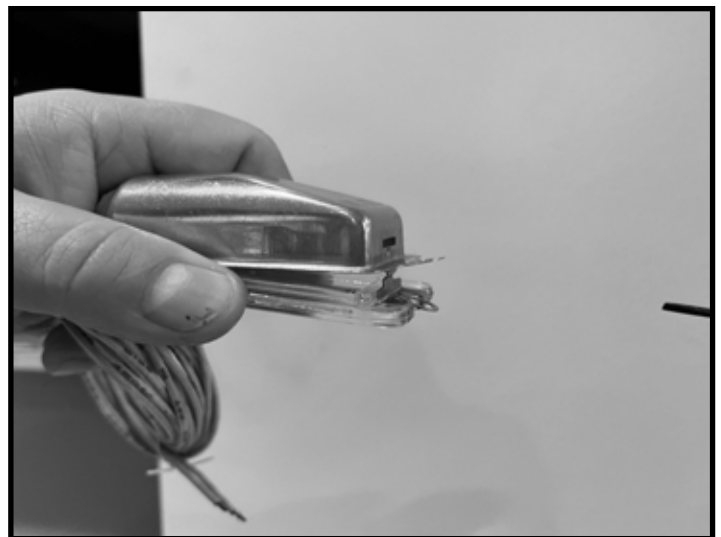

Figure 35: Twist to open glass lens.
3. Twist the screwdriver carefully to pop the glass lens open. Figure 35.